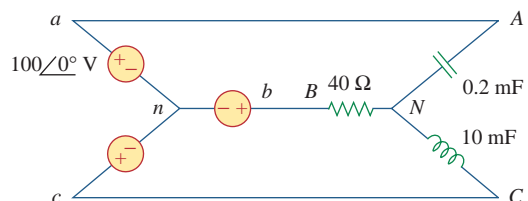

Figure 12.65
12.59 The source in Fig. 12.65 is balanced and exhibits a positive phase sequence. If $f = 60$ Hz, use PSpice to find \mathbf{V}_{AN} , \mathbf{V}_{BN} , and \mathbf{V}_{CN} .